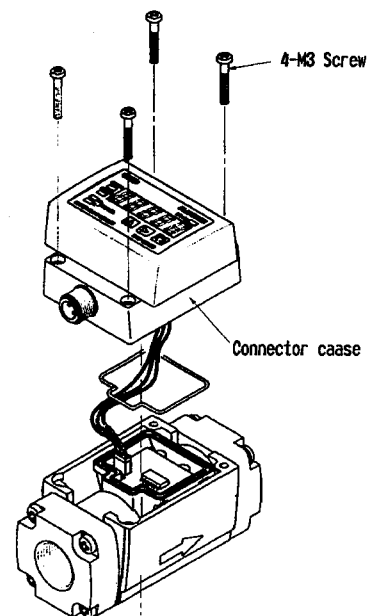

Fig. 4-6
• If the connector taking direction is opposite to the wiring direction, remove four M3 screws and turn the connector case 180° . At this time, pay special attention so that cables are not caught in the case. See Fig. 4-6.